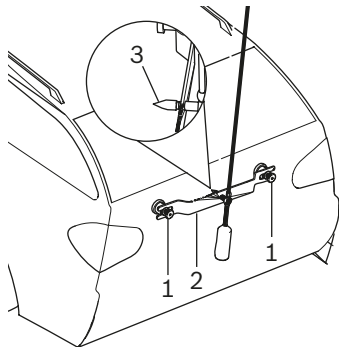

Fig. 47: Fine adjustment of alignment pendulum
- 4. Align the alignment pendulum exactly to the middle of the vehicle by means of the center point (Fig. 47 / 3). To accomplish this, loosen the two knurled nuts (Fig. 47 / 1) and shift the bridge (Fig. 47 / 2) in such a way that the center point is exactly in the middle of the vehicle.